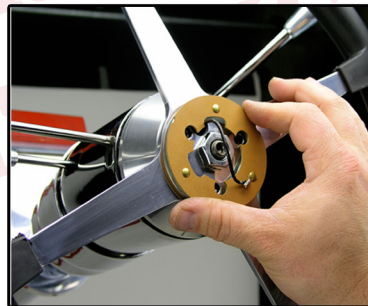

Figure 5
2. Set the steering wheel on the front of the adaptor over the shaft. Rotate the wheel so that it matches the hole you drilled and install the three bolts loosely. Install the nut (9/16-18 Jam nut) on the center shaft. Torque to 35 ft. lbs. (See Figure 5)